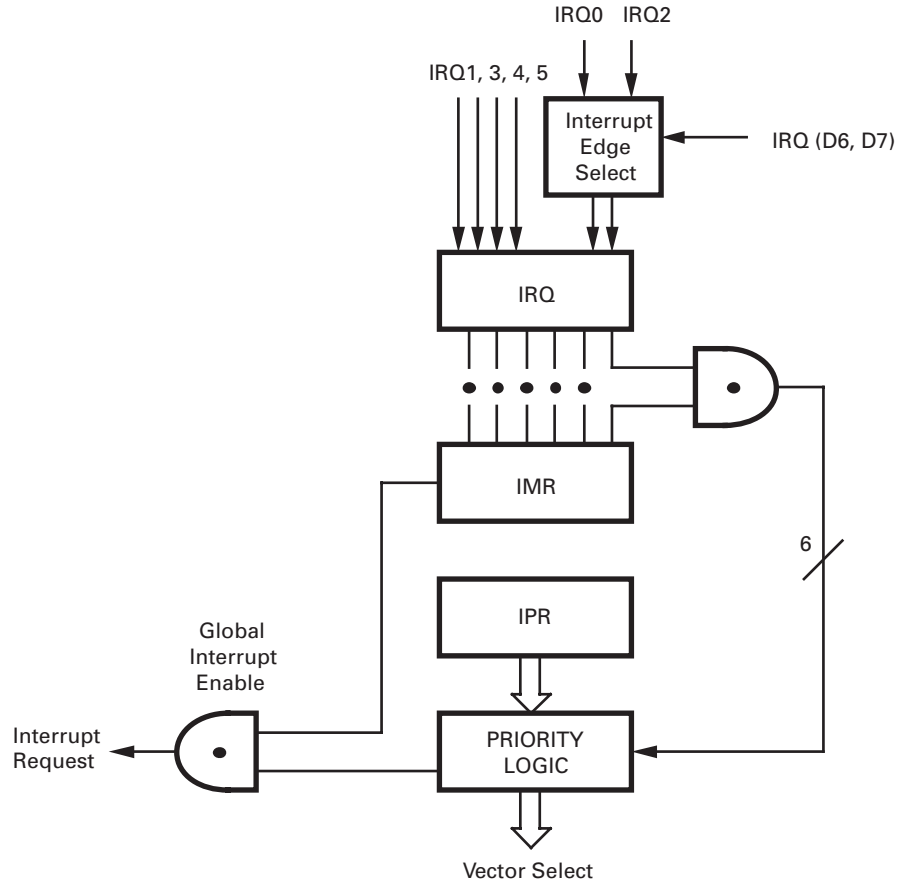

Figure 23. Interrupt Block Diagram
**Interrupts.** The Z8 features six different interrupts from six different sources. These interrupts are maskable, prioritized (Figure 23) and the six sources are divided as follows: four sources are claimed by Port 3 lines P33–P30, and two in